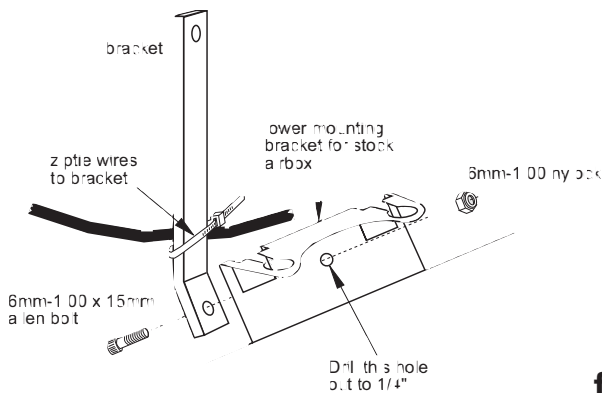

fig. 1
- 8) Remove the plastic clip from the lower airbox mount on the vehicle. This hole must be drilled out to 1/4". Loosely install the bracket with the supplied hardware. Use the supplied ziptie to secure the wires. (See fig. 1)